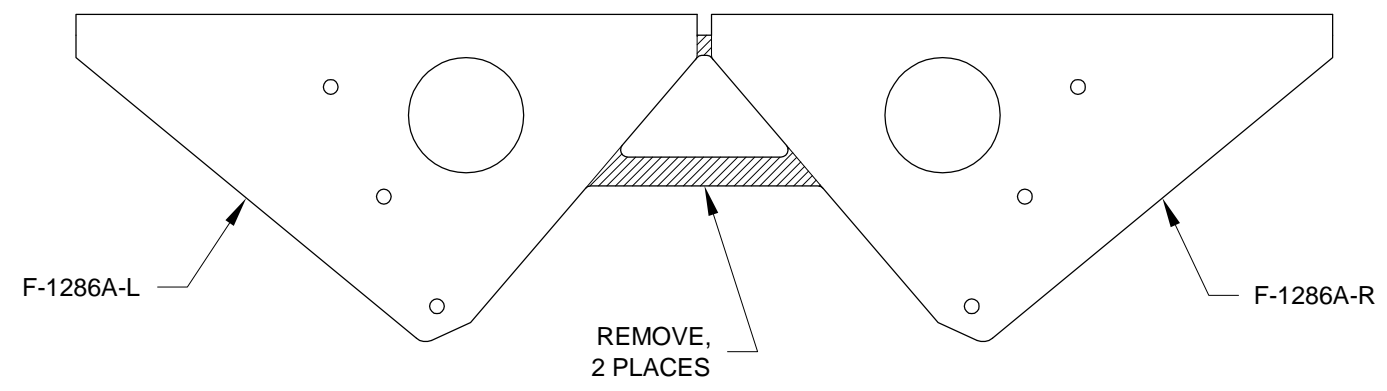

FIGURE 1:
Step 1: Label, then separate the F-1286A-L & -R Servo Bracket by removing the material shown hatched in Figure 1.